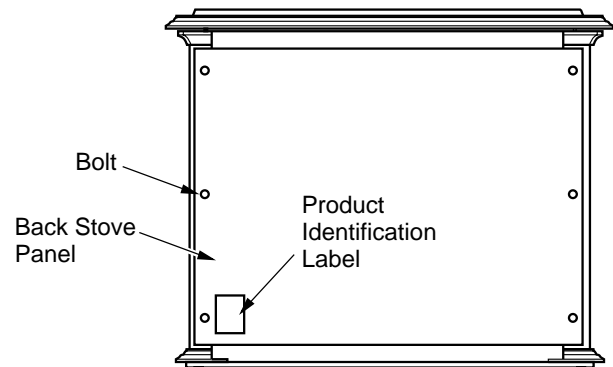

Figure 6 - Removing Back Panel
4. Locate the product identification label on the back panel (see Figure 6) and record the model number and 7 digit serial number in the space provided in the back of this owner's manual. Retain this operation and installation manual for future reference and warranty.
5. Remove the six (6) bolts on the back stove panel with an adjustable wrench or a 10 mm socket. Discard the back panel and retain the bolts and washers to attach the rear cover provided with the burner system.